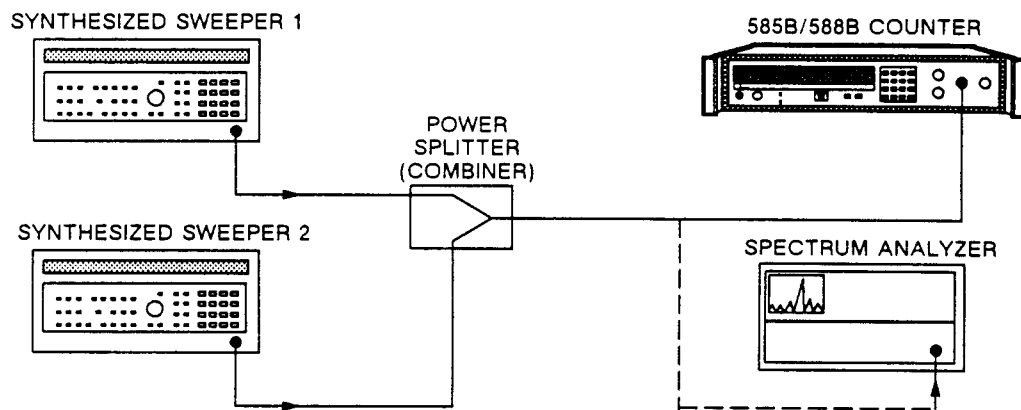

Figure 8-7. Band 2 Amplitude Discrimination Test Setup.
1. Connect equipment as shown in Figure 8-7.